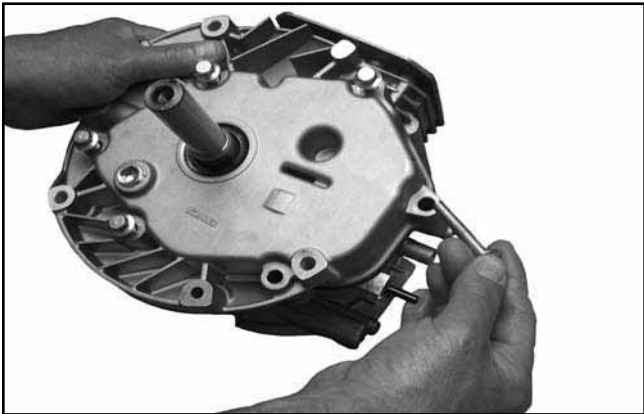

Figure 8-46. Removing Oil Pan Screws.
1. Remove the six hex flange screws securing the oil pan. See Figure 8-46.